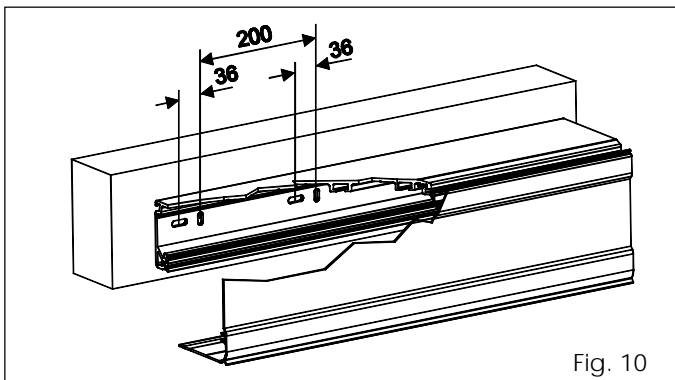

Fig. 10
- Secure at the centre, firmly lifting the head profile to align the three securing points. Carry out the remaining securing operations, alternating vertical and horizontal slots (fig. 10).